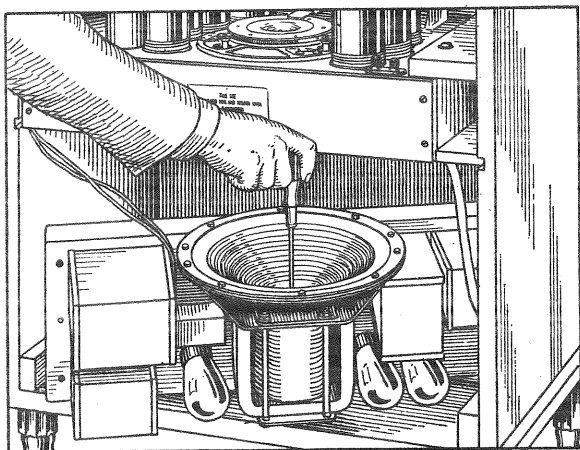

Fig. 25—Centering Speaker Cone.
- a. Remove the mounting screws which hold the amplifier-speaker unit to the base of the cabinet, and turn the unit on its side as shown in Fig. 25.